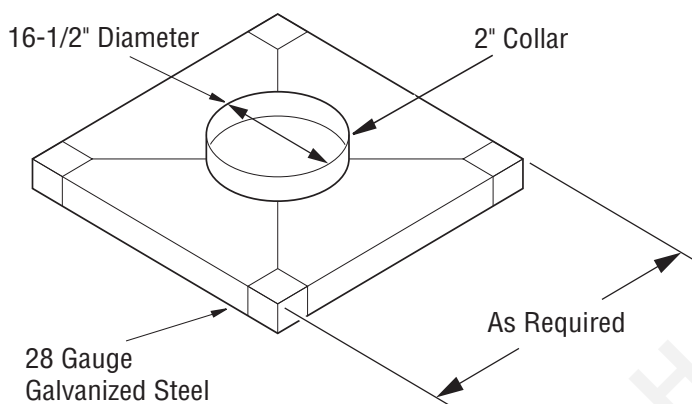

Figure 24 - Constructing Chase Top Flashing
- Fabricate a flashing having a 16-1/2" diameter hole centered over chimney end with a 2" collar around hole (see Figure 24). Attach noncombustible spacers at each corner and place flashing over chase.